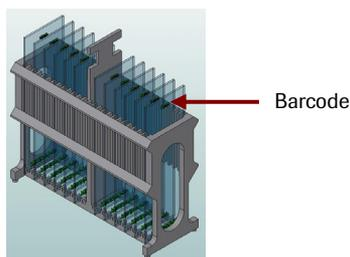

Figure 10: Insert Slides with the Barcode at the Top into the Slide Rack
9. If washing multiple slides, transfer the slide with the barcode at the top into a slide rack (Figure 10) in the wash tank that contains Wash I. If washing one slide, transfer the slide into a slide container that contains Wash I. Agitate vigorously for 10 - 15 seconds.